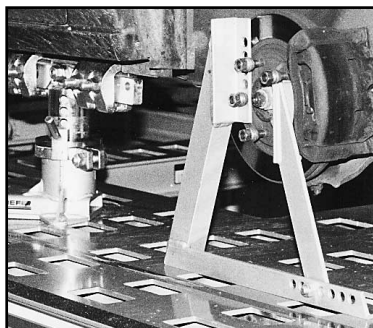

Figure 20
**NOTE:** It is a good idea to install wheel stands (see Figure 20) even if they will not be supporting vehicle weight. This precaution is a safeguard in the event the vehicle moves from its anchoring locations.